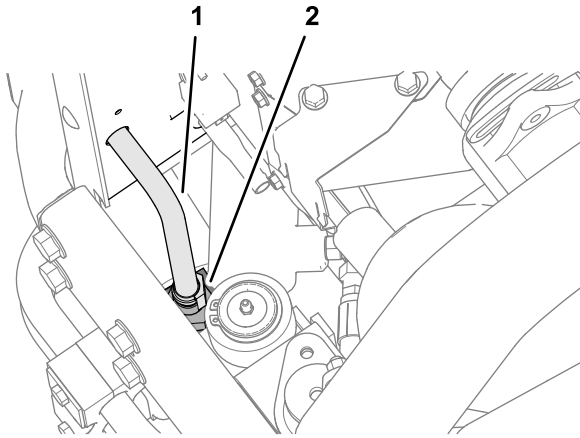

Figure 13
3. Disconnect the hydraulic cooler-outlet tube from the fitting at the top of the hydraulic filter head (Figure 13).